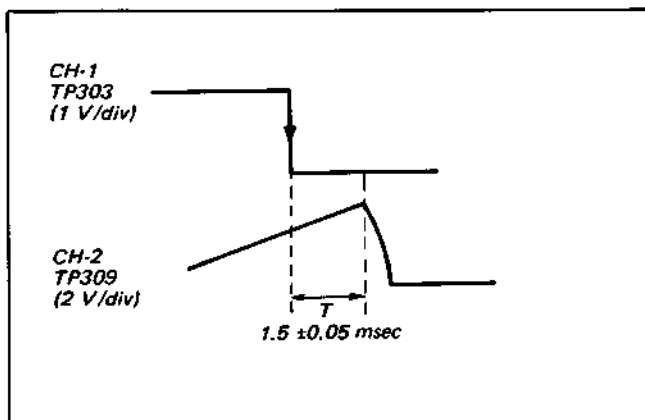

Fig. 5-13. Tracking center adjustment
- ii) Adjust to $1.5 \text{ msec} \pm 0.05 \text{ msec}$ with RV304. (See Fig. 5-13.)